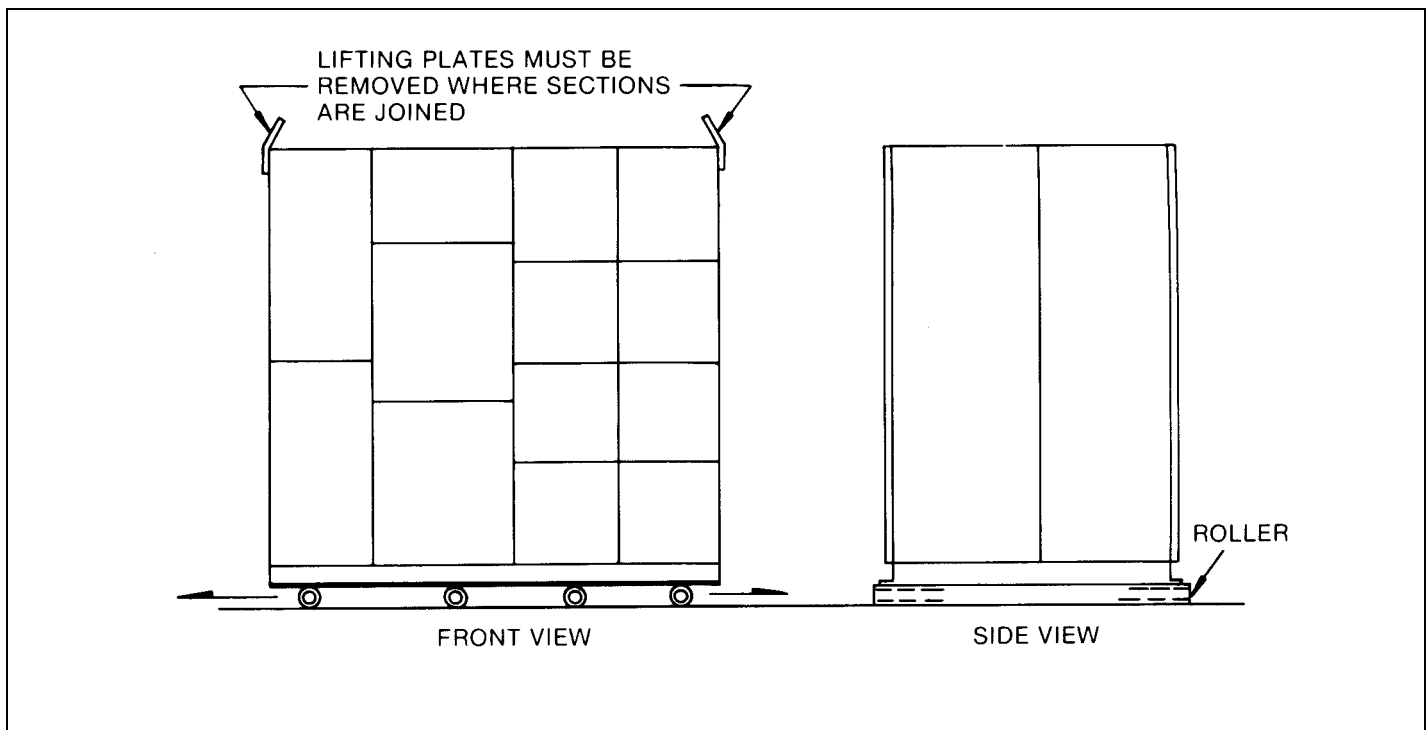

Fig. 2-6. Method of rolling equipment into place
6. Carefully lower the gear until it rests on the rollers (Fig. 2-6).
7. While carefully pushing the switchgear to its final site position, the rollers that are freed from the rear of the switchgear are then repositioned at the forward end. This procedure should be continued until the switchgear is in its final location. See Fig. 2-6.